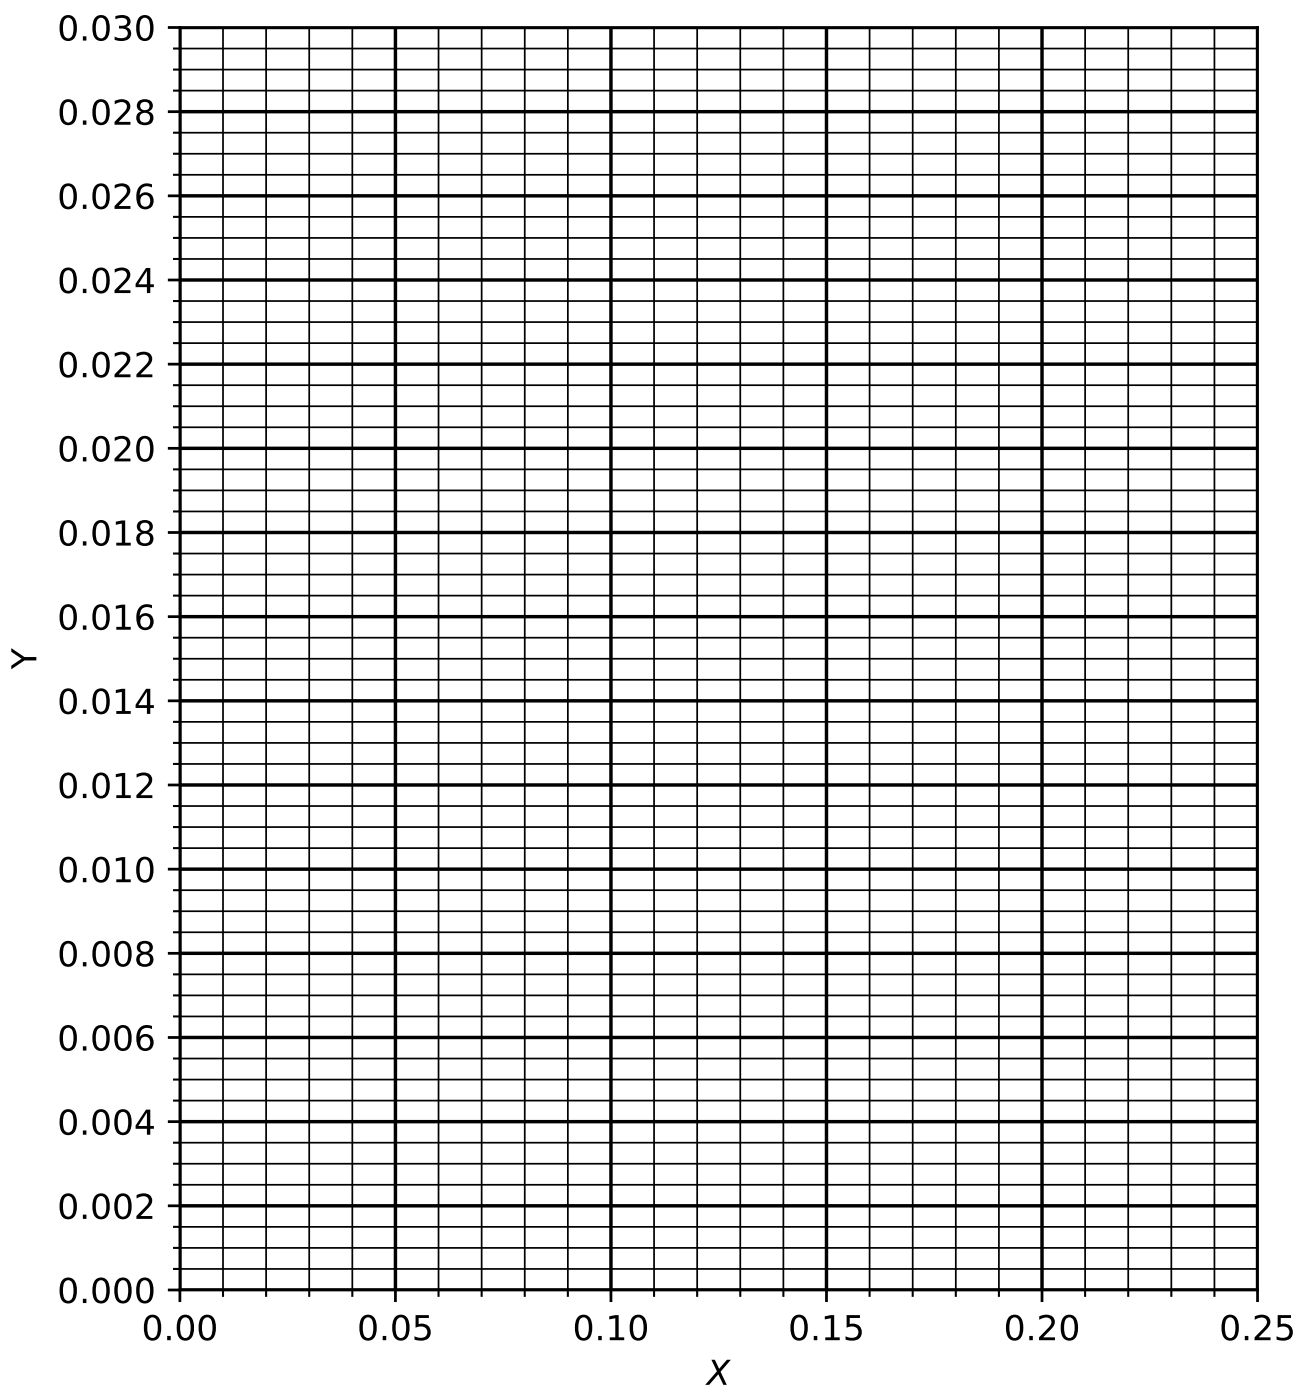

Figure 35: A blank X-Y graph for use in Q. 7.33.
b) Determine the number of real plates required. A blank X - Y graph is provided in Fig. 35. **[10 marks]**